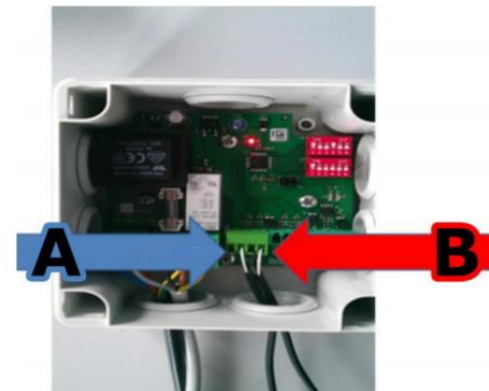

Figure 3
In the box of the beniferrosol, you can find 2 sensors in a plastic bag. These have to be connected to to the Beniferrosol. Open the Beniferrosol and connect the cables A and B as seen in fig. 3. These will measure the temperature of the EPDM panel (A) and the poolwater (B) .